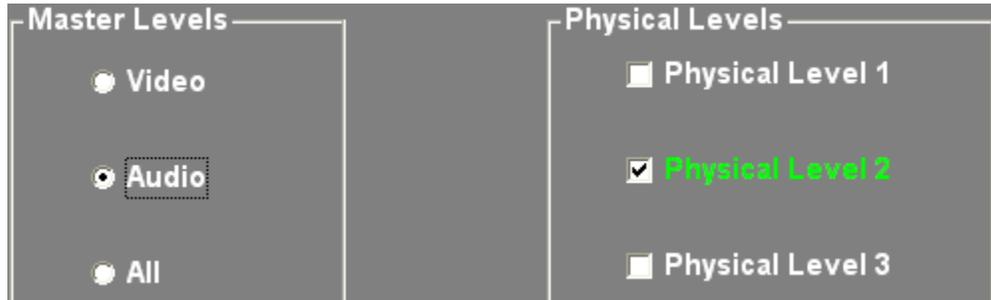

FIGURE 71: Initial Level Selections
- 11) Next (see Figure 71), select the second Master Level. Check only Physical Level 2 and uncheck all other levels.